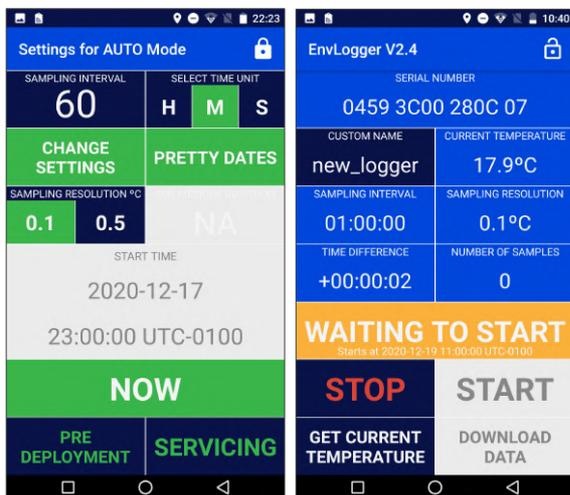
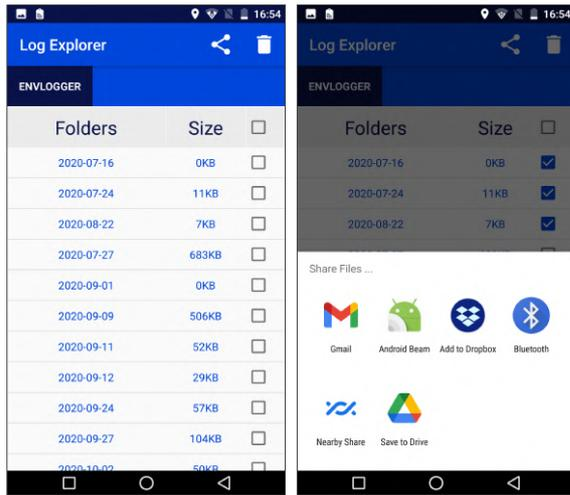

Figure 6. Start mission and waiting to start screens.
Figure 14. Log explorer (left) and share menu (right) screens.
To start a mission, press “START”. This will bring up a new screen (Fig. 6 left). From here you can choose a sampling resolution (0.1 °C or 0.5 °C), and the sampling interval in hours (H), minutes (M) or seconds (S). For EnvLoggers T2.4, the minimum value is 10 seconds. For T7.3, the minimum value is 2 minutes.
Press OK. A confirmation message will show up on the screen. If the logger was programmed to start later, you will see “WAITING TO START” highlighted in yellow in the main screen (Fig. 6, right). There is also an indication of when the first sample will be taken.
pressing “START”. This will bring you back to the start mission screen (Fig. 6 left side). The logger can be re-started an indefinite number of times, providing that the battery has power. 3. You can “CANCEL” looking at the data. This will return you to the mission running screen (Fig. 7 left). You should use this option whenever you are just checking loggers and want to download and backup data but for some reason do not want to stop the current mission and start a new one. Note that pressing the back button on your smartphone will have the same result and will return the app to the main screen. Also note that if you do not restart the mission the memory will not be “cleaned”, and thus you will not gain additional deployment time. 4. Finally, you can also tap the button “SHARE”. This will open the system sharing options (see Fig. 14 below) and will allow you to send the data by email, for example, providing that the smartphone is connected to a data network or to Wi-Fi.
The app allows you to manage the collected data after servicing EnvLoggers. To do that, open the app without connecting to any logger. From the main screen, touch the folder icon in the top right corner of the screen. That will open a data browser called “Log Explorer” (Fig. 14 left). There you will see the root folder called “ENVLOGGER”. Inside, the log files will be organized in folders, grouped by day. You can select entire folders to delete or share or tap them to see the individual log files inside, which can also be deleted or shared using the system sharing options (Fig. 14 right).